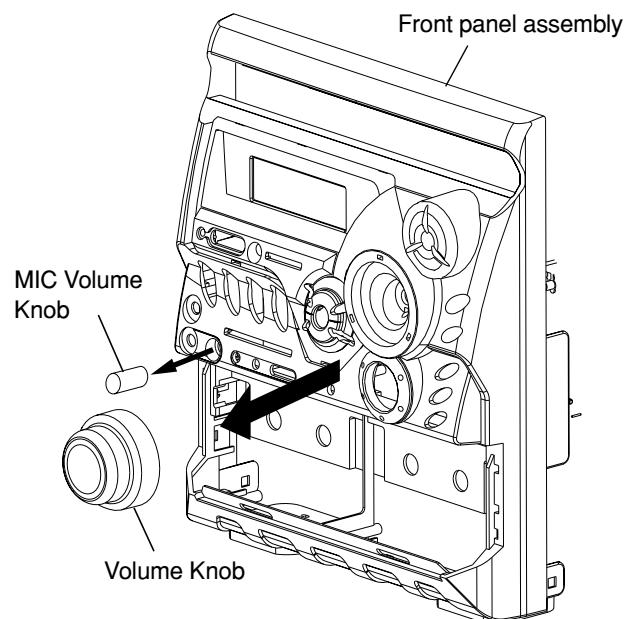

Fig.24
- Pull out the volume control knob and MIC Volume Knob from the front of the front panel assembly. (Fig.24)